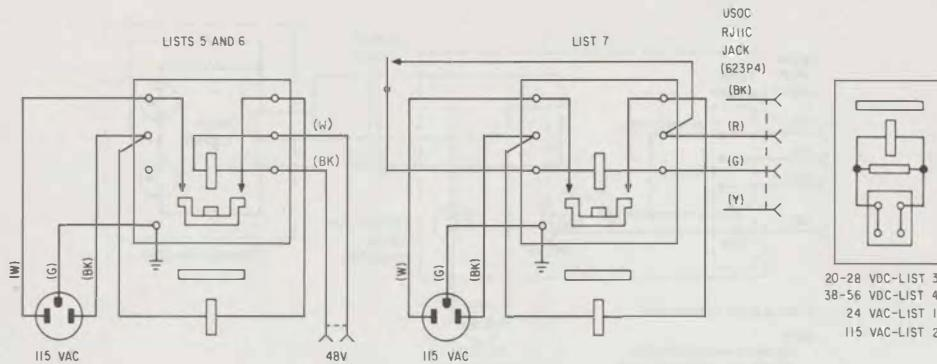

Fig. 33—Connections for KS-22001 Chimes
6.09 Connections for KS-22001 chimes are shown in Fig. 33.